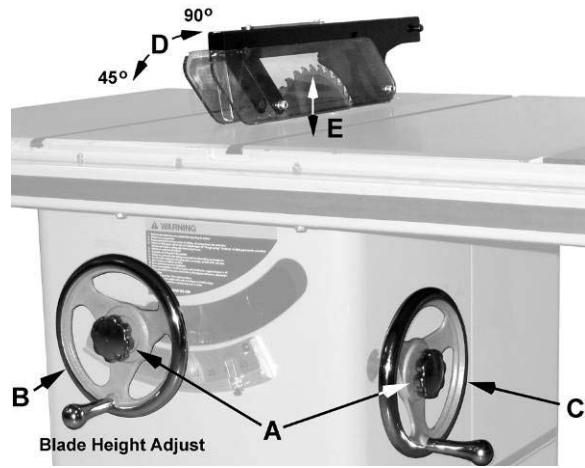

Figure 10
Referring to Figure 10:
4. With the height adjust handwheel (B, Figure 10), lower the saw blade all the way.
5. With the height adjust handwheel (B, Figure 10), adjust height of the blade until the top of the saw blade is 1/8" below the top of the table.